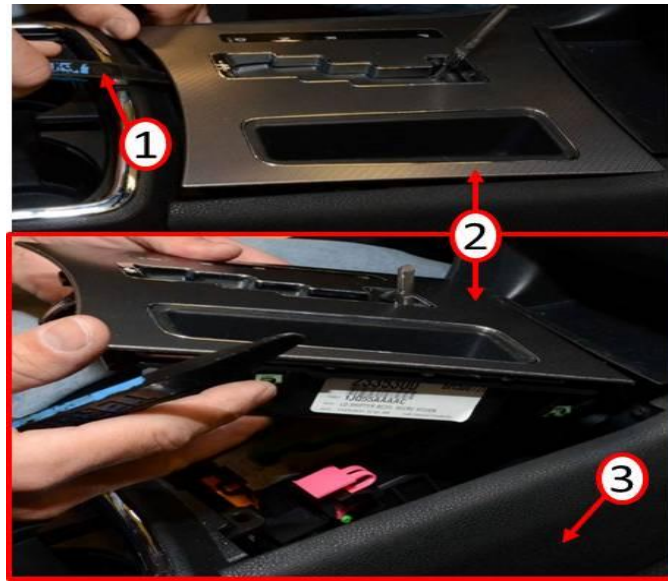

Fig. 2 Shifter Bezel Removal
- Using a trim stick (1) gently pry between the shifter bezel (2) and the floor console (3) to release the snap retainers that secure the bezel (Fig. 2).